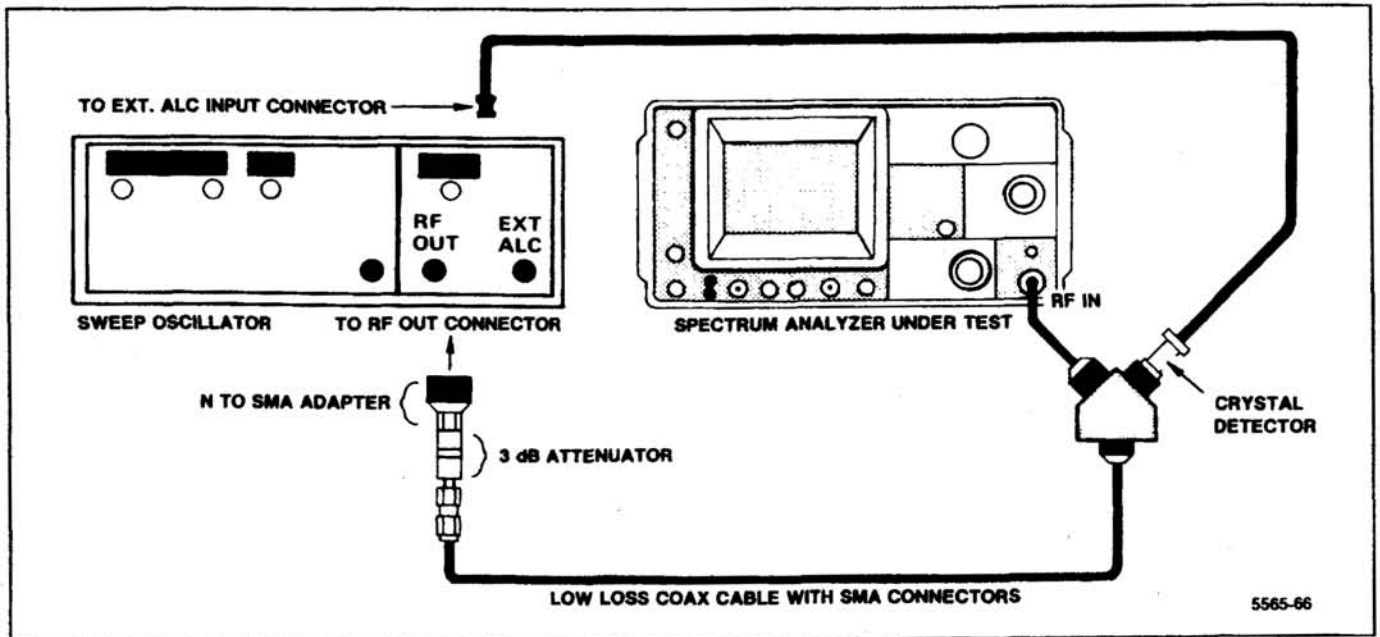

Figure 5-23. Test equipment setup for band leveling adjustment.
- d. Connect test equipment as shown in Figure 5-23. Set the Spectrum Analyzer controls as follows:
a. Test equipment setup is shown in Figure 5-23. Apply 2072 MHz at −30 dBm, through a dc-blocking capacitor to the EXT MIXER input. Monitor the input with a power meter to set the power level then add a known 30 dB attenuator so the input level to the EXTERNAL MIXER port is −60 dBm. Set the Spectrum Analyzer controls as follows: